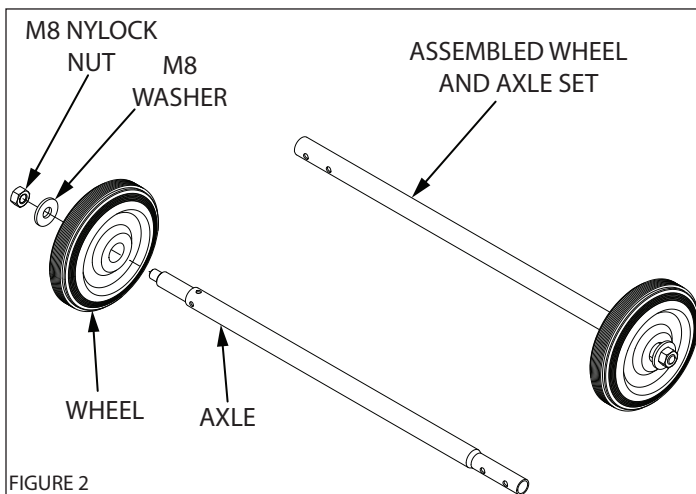

FIGURE 2
- Bolt M8 x 1.25 x 20 (1)
- Bolt M6 x 1.0 x 28 (2)
- Washer M8 x 24 x 2.2 Flat (12)
- Washer M8 Spring Lock (7)
- Washer M8 x 30 Domed (1)
- Washer M6 Spring Lock (2)
- Washer M10 Flat (2)
- Nut M6 x 1.0 Nylock (2)
- Nut M10 Nylock (2)
- Carabiner (4)
4. Assemble wheel to axle (**SEE FIGURE 2**). For each axle component: